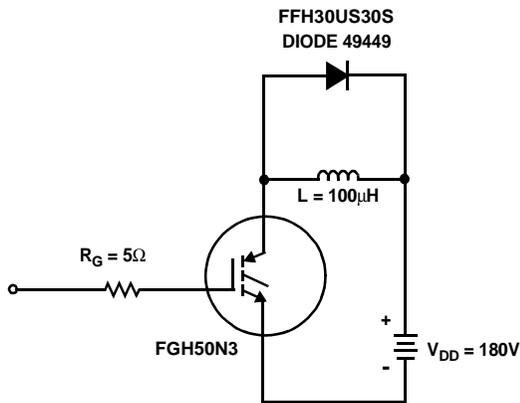

Figure 20. Inductive Switching Test Circuit
1. E_{ON2} is the turn-on loss when a typical diode is used in the test circuit and the diode is at the same T_J as the IGBT. The diode type is specified in figure 20.